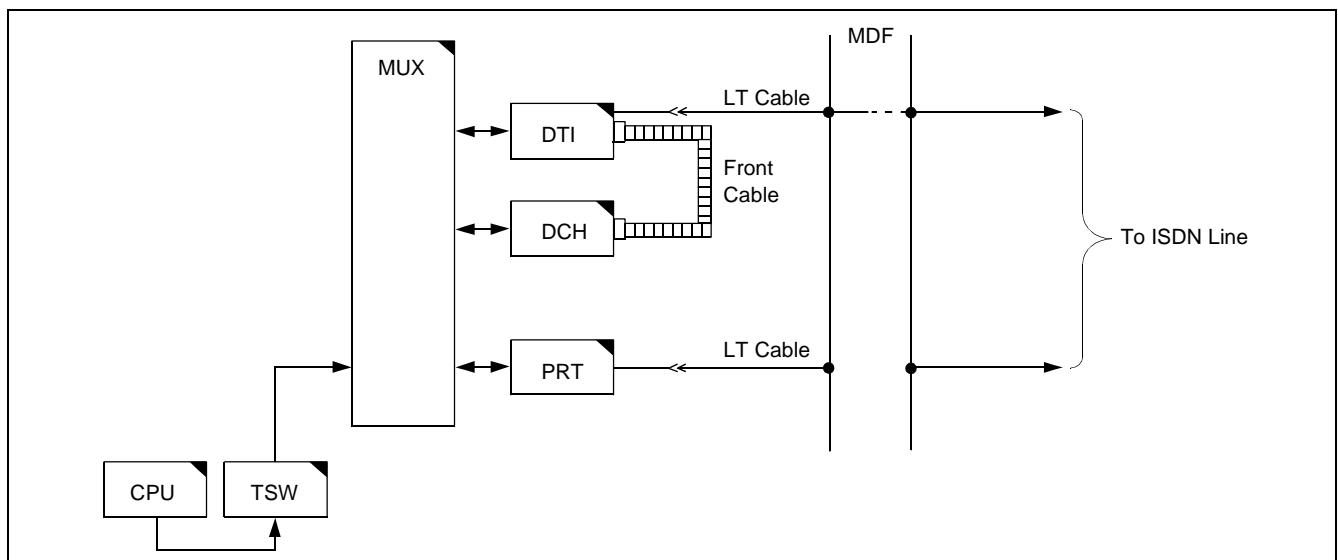

Figure 5-26 Controlling ISDN Line
- (1) Check alarm lamps on the DCH or PRT circuit card.
- (2) Refer to Figure 5-26, and check the cable connection.
The signal link controls permit normal transmission and reception of call processing information. Figure 5-26 shows the ISDN line control route.